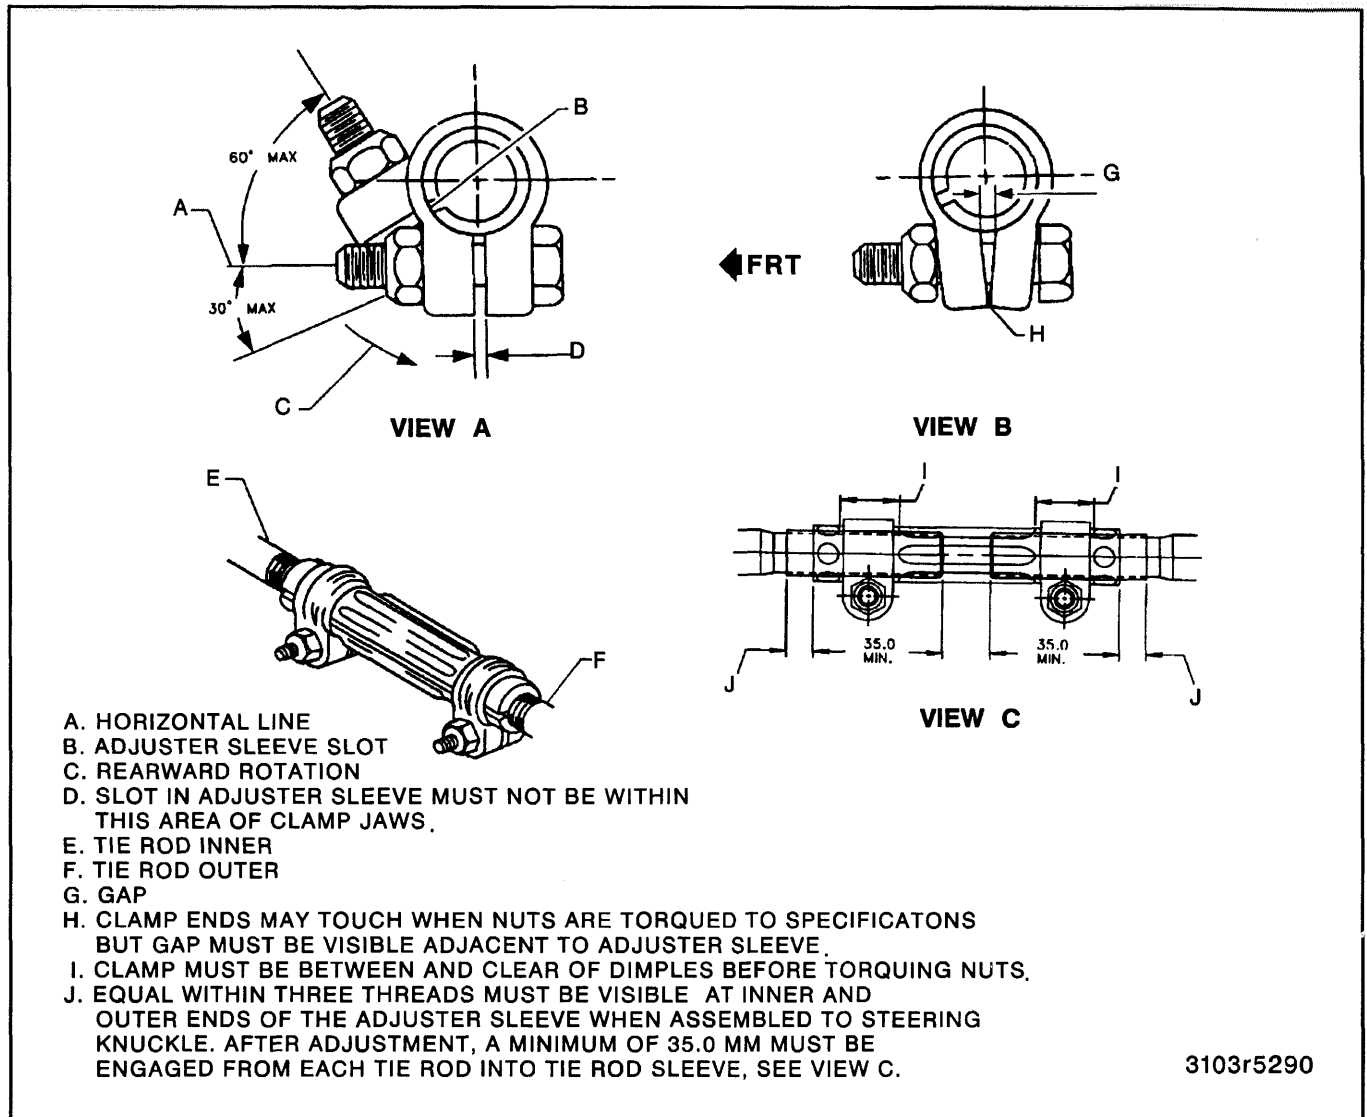

Figure 6—Tie Rod Clamp and Adjuster Tube Positioning
Adjust (Figure 6)
1. Position adjuster tube clamp bolts (figure 6). Before tightening the clamp bolts, be sure the following conditions have been met:
- B. The clamps must be positioned within the angular travel shown in figure 6.
- D. The clamp ends may touch when nuts are torqued to specification, but the gap next to the adjuster tube must not be less than the minimum dimension shown in figure 6.
- C. Ears of the drag link adjuster clamps must be rotationally positioned as in (figure 6).
- Tie rod adjuster tube clamps must be positioned as specified in figure 6.